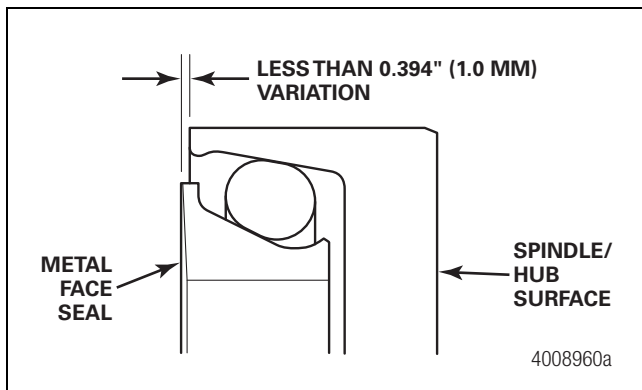

Figure 9.8
12. Check the seal's assembled height in at least four places 90 degrees apart. The variation cannot exceed 0.394-inch (1.0 mm). Figure 9.8.